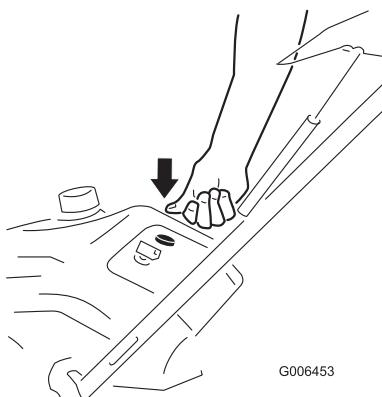

Figure 16
- Firmly push in the primer with your thumb as indicated by the chart below, holding in the primer for a second before releasing it each time (Figure 16).